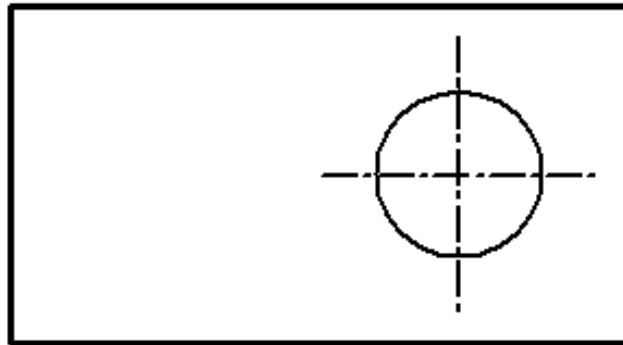

Fig. 7
- (c) A component has a drilled hole with a diameter of 30 mm. Show this on the drawing using standard conventions in **Fig. 7**.